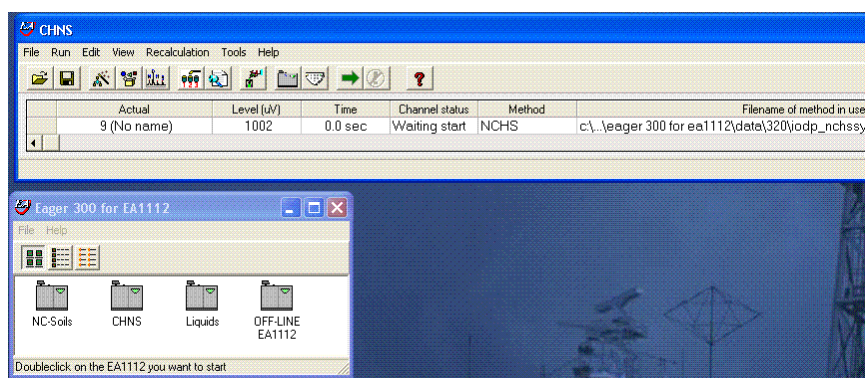

Figure 7. CHNS Screen
2. Select **CHNS** from the list and click **OK** to answers prompted step by step (*Figure 7*).